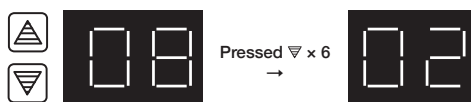

Fig. 3
- Use the “Up” or “Down” (▲ or ▼) buttons to set to the desired temperature. Fig. 3